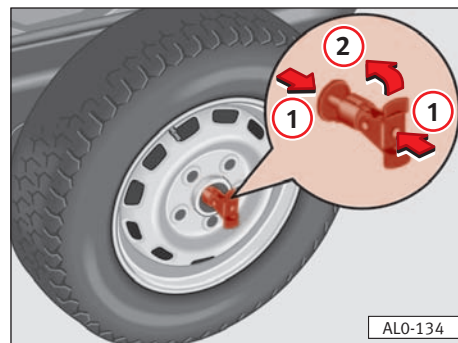

Fig. 172
- Squeeze the retainer lightly (arrows ①) and at the same time fold the cross piece in the direction shown ② ⇒ **fig. 172**. Now guide the retainer through the central opening in the spare wheel. ■
- Fold the cross piece in the opposite to arrow ⇒ **fig. 172 ②**.